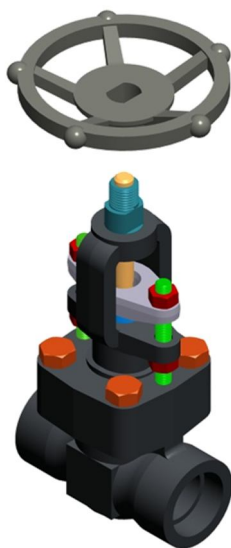

Fig. 14
- Keep the valve in mid position and remove the hand wheel / actuator from the top of the valve (Fig. 14).